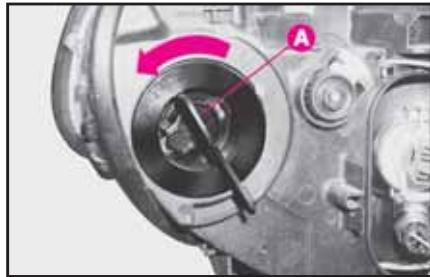

fig. 16
- 1) Release the spring **fig. 16-A** and remove the plastic protective cover.
- 3) After having replaced the bulb, re-fit the bulb holder and the protective cover **A-fig. 16**.